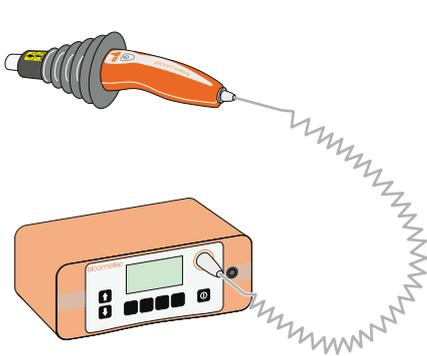

Figure 1
- 1 Connect the high voltage probe handle to the instrument using the grey curly cable (Figure 1).